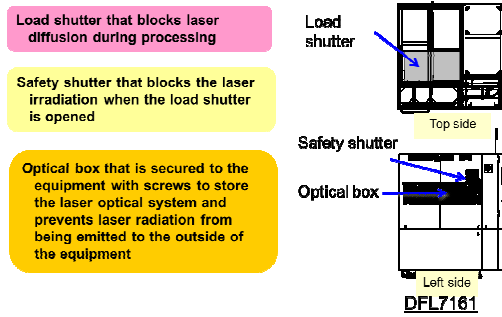

Fig.4 Safety mechanisms installed in the DFL7161
- (1) A shield cover and safety shutter that block various types of laser beams (e.g. direct beam, scattered beam, and diffused beam) and prevent them from being radiated to the outside of the equipment (Fig. 4)
- (2) An interlock that turns the laser power off when the shield cover or safety shutter is opened during laser irradiation
- (3) A system that shuts down the laser power if the safety shutter is opened when the interlock is out of order